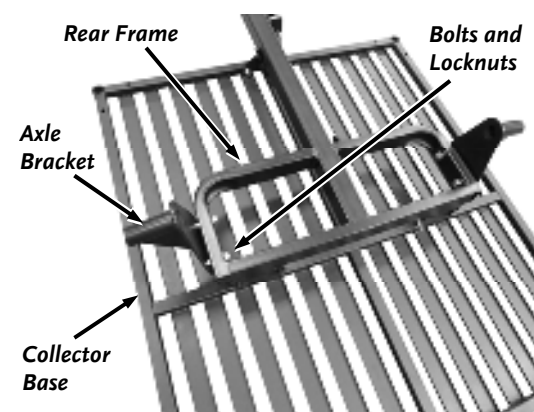

Figure 8
1. Position the Rear Frame and Collector Base Assembly upside down (Figure 8).